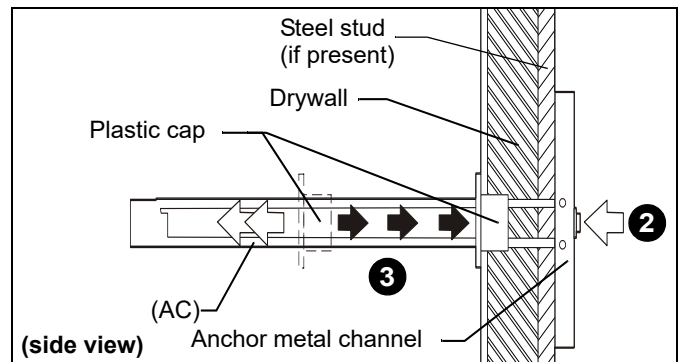

Figure 22
2. Holding plastic straps on anchor (AC), pull anchor away from wall until channel rests flush behind wall making sure anchor channel is positioned vertically on drywall, or steel stud (if present). (See Figure 22)
3. Slide plastic cap on anchor (AC) towards wall until flange of cap is flush with wall. (See Figure 22)